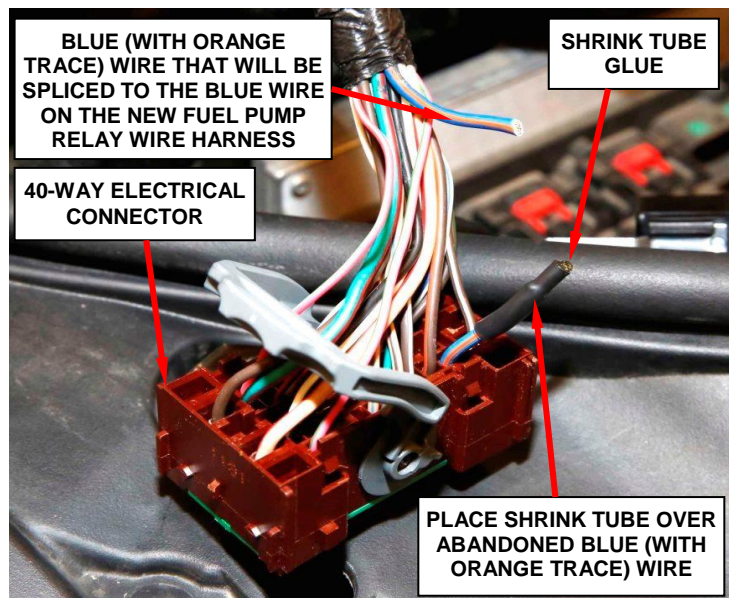

Figure 21 – Cut the Blue (with Orange Trace) Wire
16. Cut the blue (with an orange trace) wire one inch (25 mm) from the 40-way electrical connector (Figure 21).
17. Install shrink tube to the connector side blue (with an orange trace) wire to insulate the wire end. This wire will no longer be used (Figure 21).